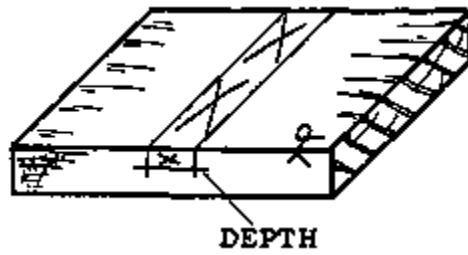

Fig. 3
- Gauge the depth of the trench at each edge (Fig. 3).
- Show the waste with small crosses (Fig. 3).